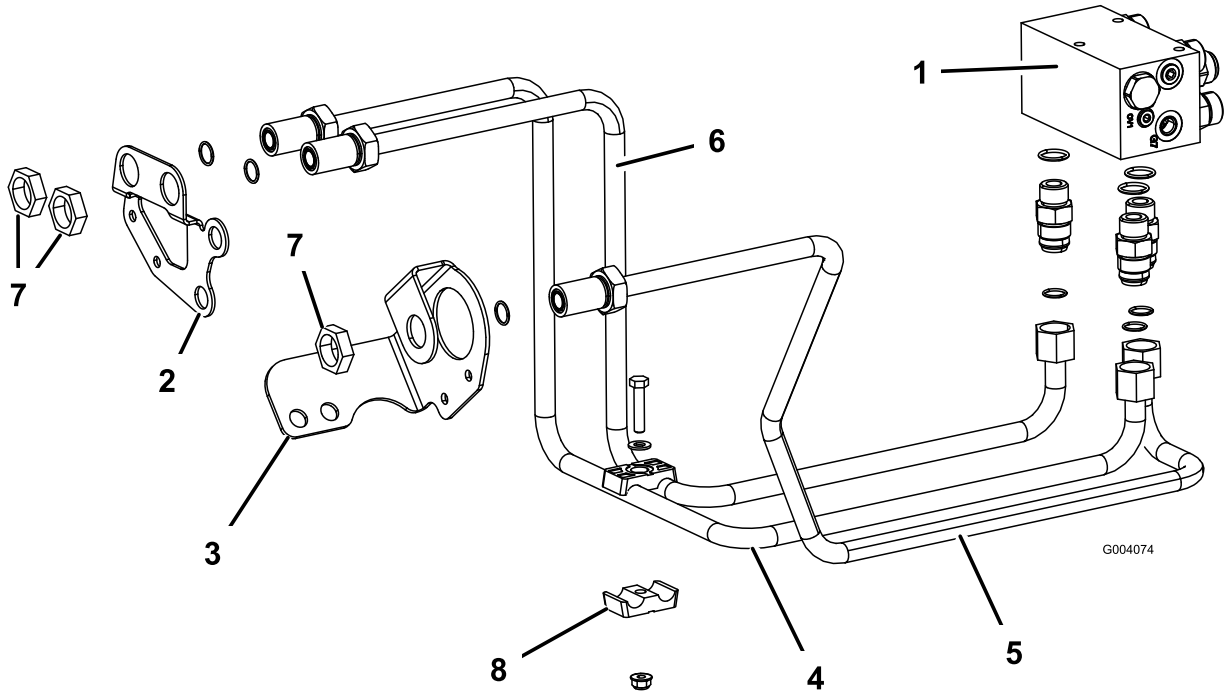

Figure 10
right hole in the right frame bulkhead bracket (Figure 10).
2. Secure the rear of the hydraulic tube to the manifold fitting and the front to the bulkhead with a locknut (1-5/16 inches); refer to Figure 10.
3. Route hydraulic tube, Part No. 108-7626, from the center manifold fitting labeled "REV" to the hole in the left frame bulkhead bracket (Figure 10).
5. Route hydraulic tube, Part No. 108-7625, from the right manifold fitting labeled "LF" to the left hole in the right frame bulkhead bracket (Figure 10).
7. Secure the 2 right bulkhead lines together with the tube clamp halves, bolt (5/16 x 1-1/2 inches), flat washer (5/16 inch), and a flange nut (5/16 inch); refer to Figure 10.